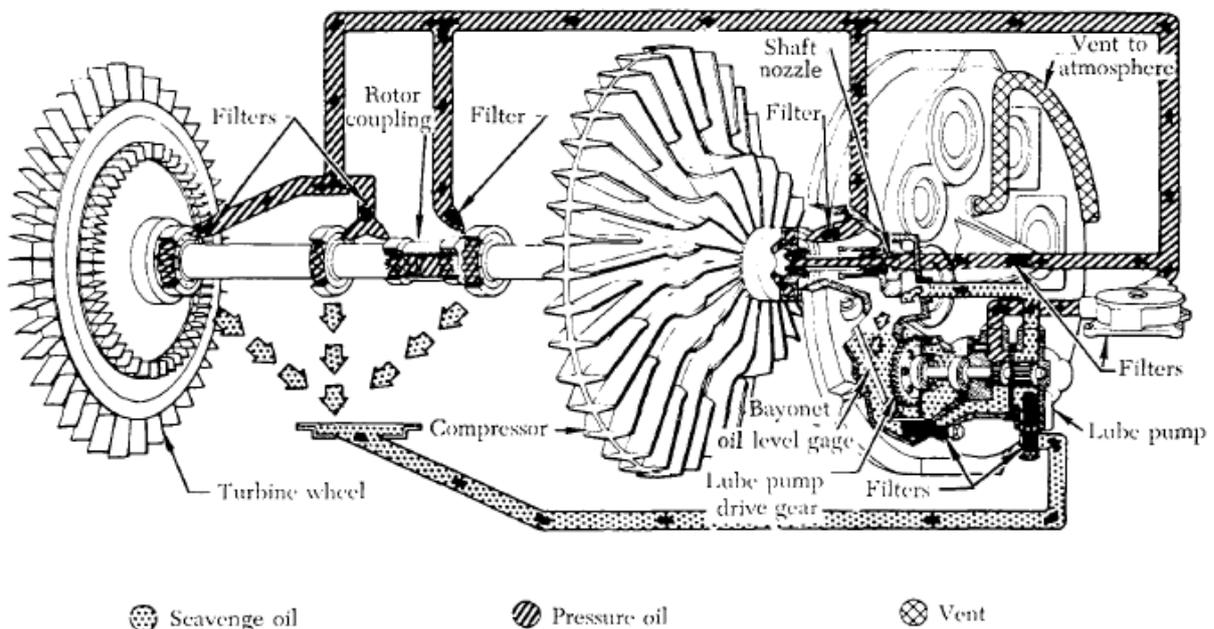

FIGURE 6-33. Turbojet engine wet-sump lubrication system.
4. The reservoir for the wet-sump oil system may be either the accessory gear case, which consists of the accessory gear casing and the front compressor bearing support casing (figure 6-33), or it may be a sump mounted on the bottom of the accessory case.
Included in the wet-sump reservoir shown in figure 6-33 are the following components: